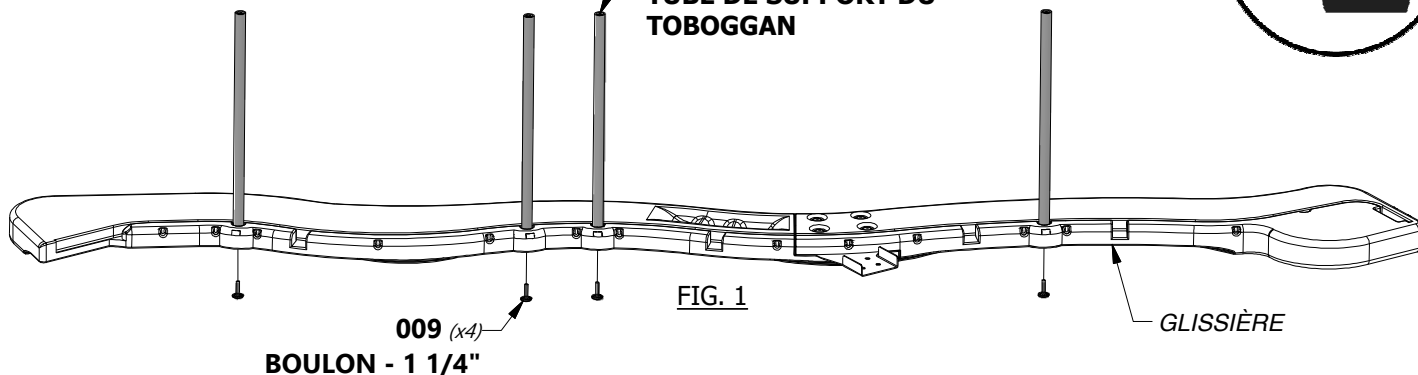

FIG. 1
PLACEZ LE RAIL DU TOBOGGAN (1) SUR UNE SURFACE PLANE ET COMMENCEZ À INSÉRER LE LIT DU TOBOGGAN AU BAS DU RAIL COULISSANT (FIG. 1). DEMANDEZ À VOTRE ASSISTANT DE PLIER LE LIT VERS LE HAUT DU TOBOGGAN ET INSÉREZ LE LIT DANS LA CAVITÉ DU TOBOGGAN. ASSUREZ-VOUS QUE LE LIT DU TOBOGGAN SOIT COMPLÈTEMENT INSÉRÉ DANS LA CAVITÉ DU TOBOGGAN.